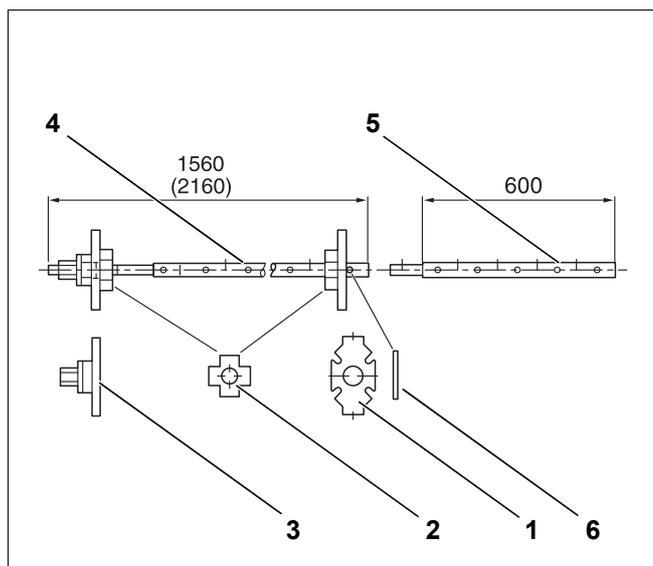
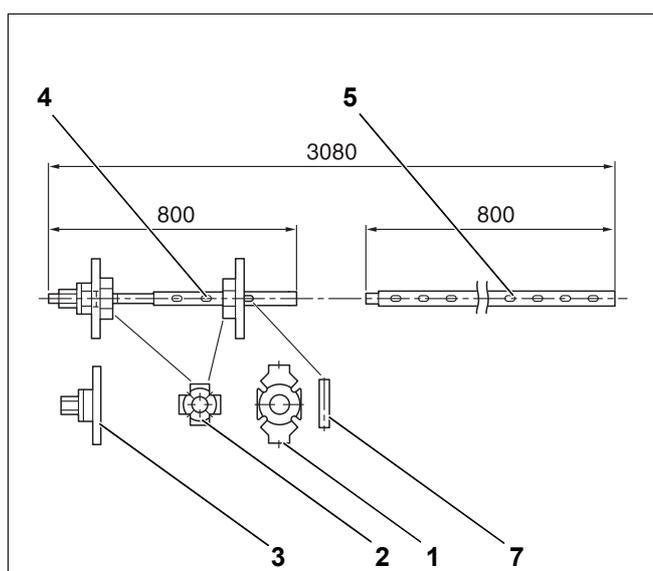

Fig. 1 Boiler compression tool size 2.2
Fig. 2 Boiler compression tool size 2.3
- Boiler tensioning tool 2.2 (→ Fig. 1) or 2.3 (→ Fig. 2)
Legend for (Fig. 1) and (Fig. 2):
To assist boiler room tidiness the boiler should be placed on a plinth 5–10 cm high (→ Fig. 1, [1]). The plinth must be perfectly flat and level. The front edge of the boiler should be flush with the edge of the plinth.